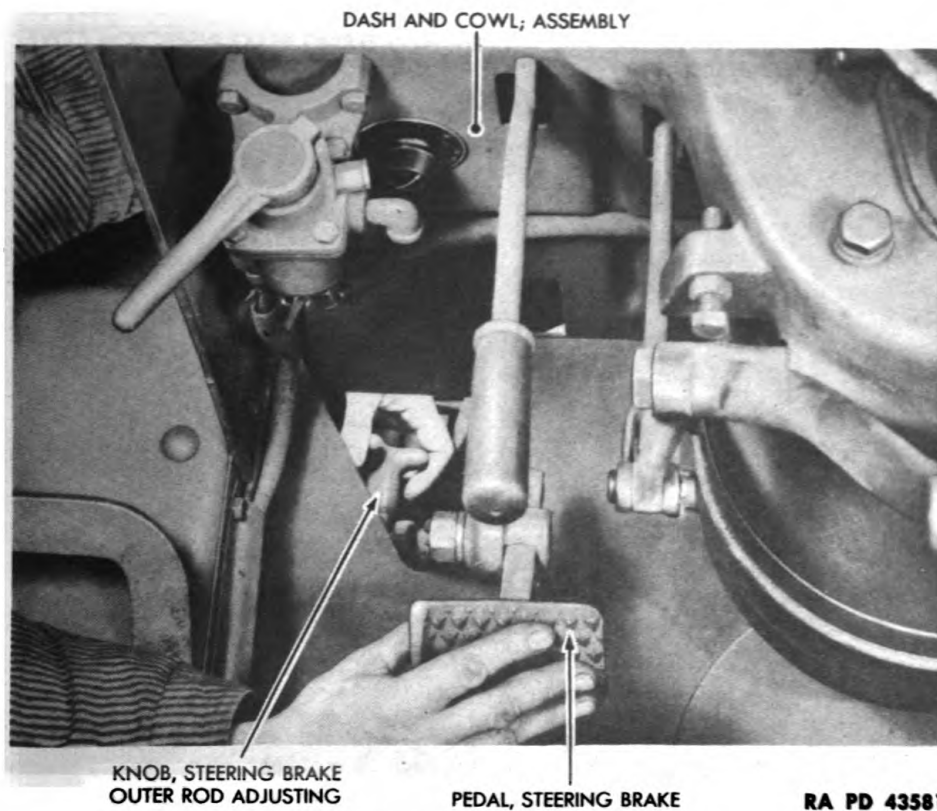

Figure 79 — Steering Brake Control, Adjustment
(1) **ADJUST STEERING BRAKE OUTER ROD ADJUSTING KNOB** (fig. 79).
(3) ADJUST OTHER STEERING BRAKE CONTROLS IN SAME MANNER (figs. 79 and 80).